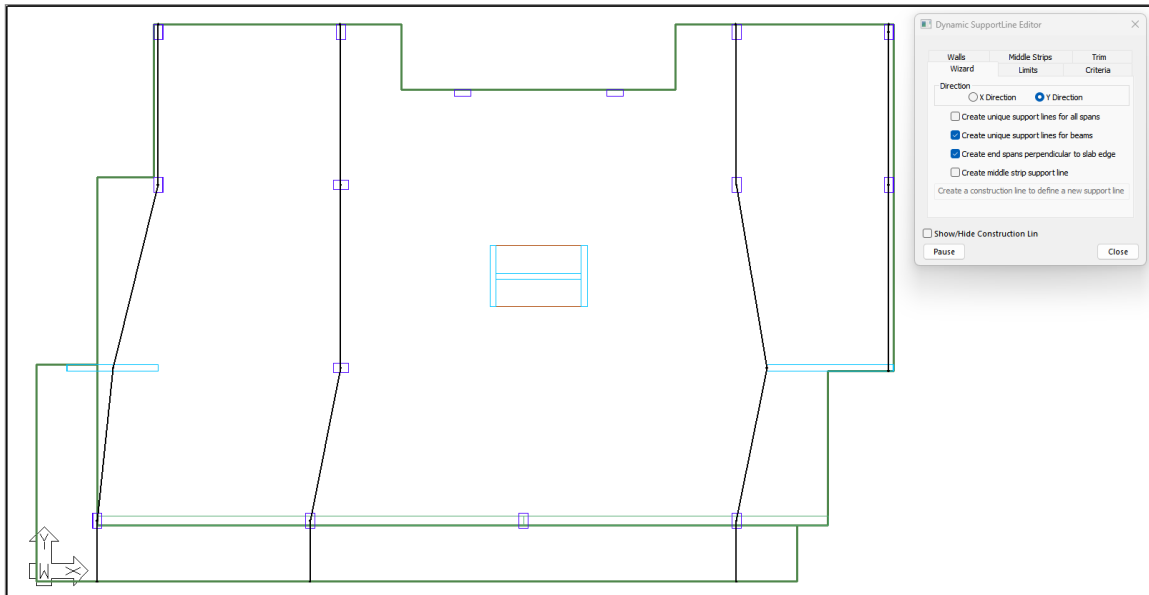

FIGURE 9-31
- Skip the middle core area and create the last two continuous support lines for the last two column lines in a similar fashion to the previous support lines created. When finished the model will look like **FIGURE 9-31**.